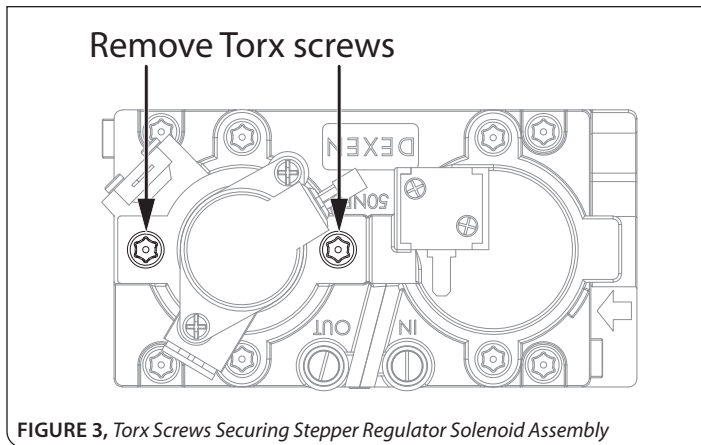
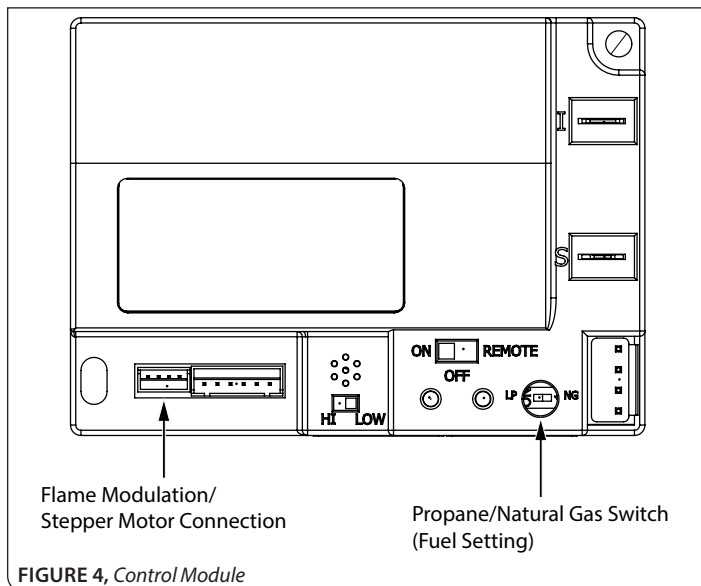

FIGURE 3, Torx Screws Securing Stepper Regulator Solenoid Assembly
FIGURE 4, Control Module
- Step 1: With a T20 Torx (star-bit) driver, remove (2) screws from the regulator solenoid assembly. See **FIGURE 3**.
- Step 5: Secure the assembly to the gas valve with (2) screws previously removed. **DO NOT OVERTIGHTEN!**
- Step 7: Slide the fuel type selector to LP. See **FIGURE 4**.